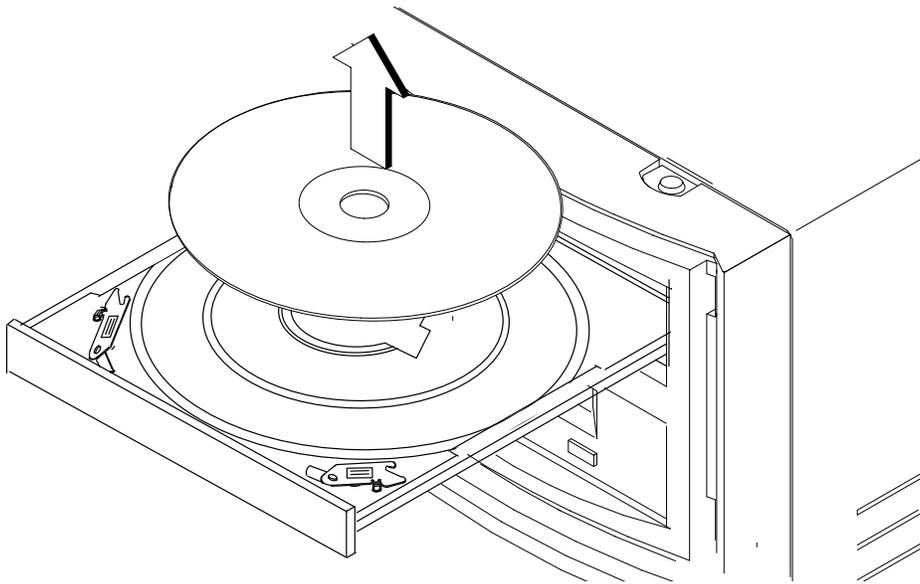

Figure 2-4. Removing the CD-ROM Disc From the Disc Tray (Horizontal Mount)
2. Wait until the drive has fully ejected the disc tray, then remove the disc from the tray as shown in Figure 2-4. Be careful to touch only the edges of the disc.